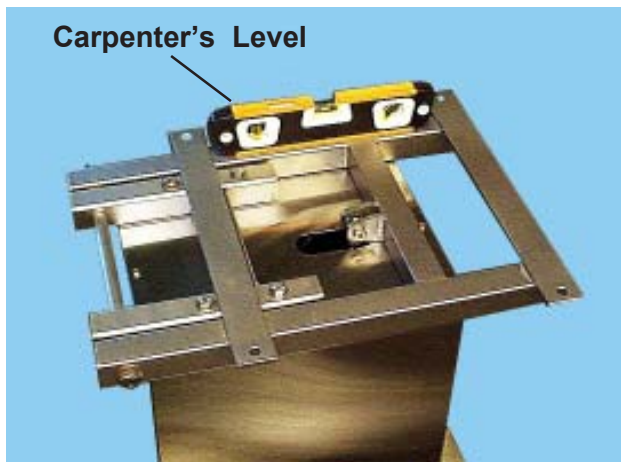

Figure 2. Level Length-wise on Base Bracket
3. Place a carpenter's level length-wise on the base bracket and check the level of the base, right-to-left (Figure 2).
8. Place a carpenter's level length-wise on the base bracket arms (Figure 2).